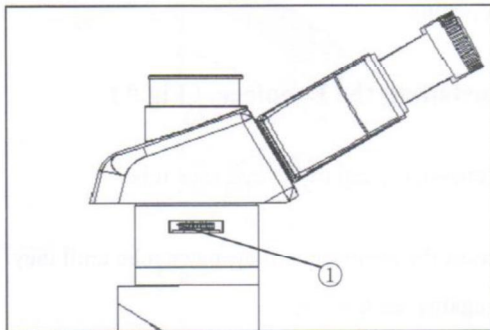

Fig.14
2-8 Mounting Analyzer (Fig.14)
Insert the analyzer ① into the jack under the trinocular viewing head if necessary, as shown in Fig.14